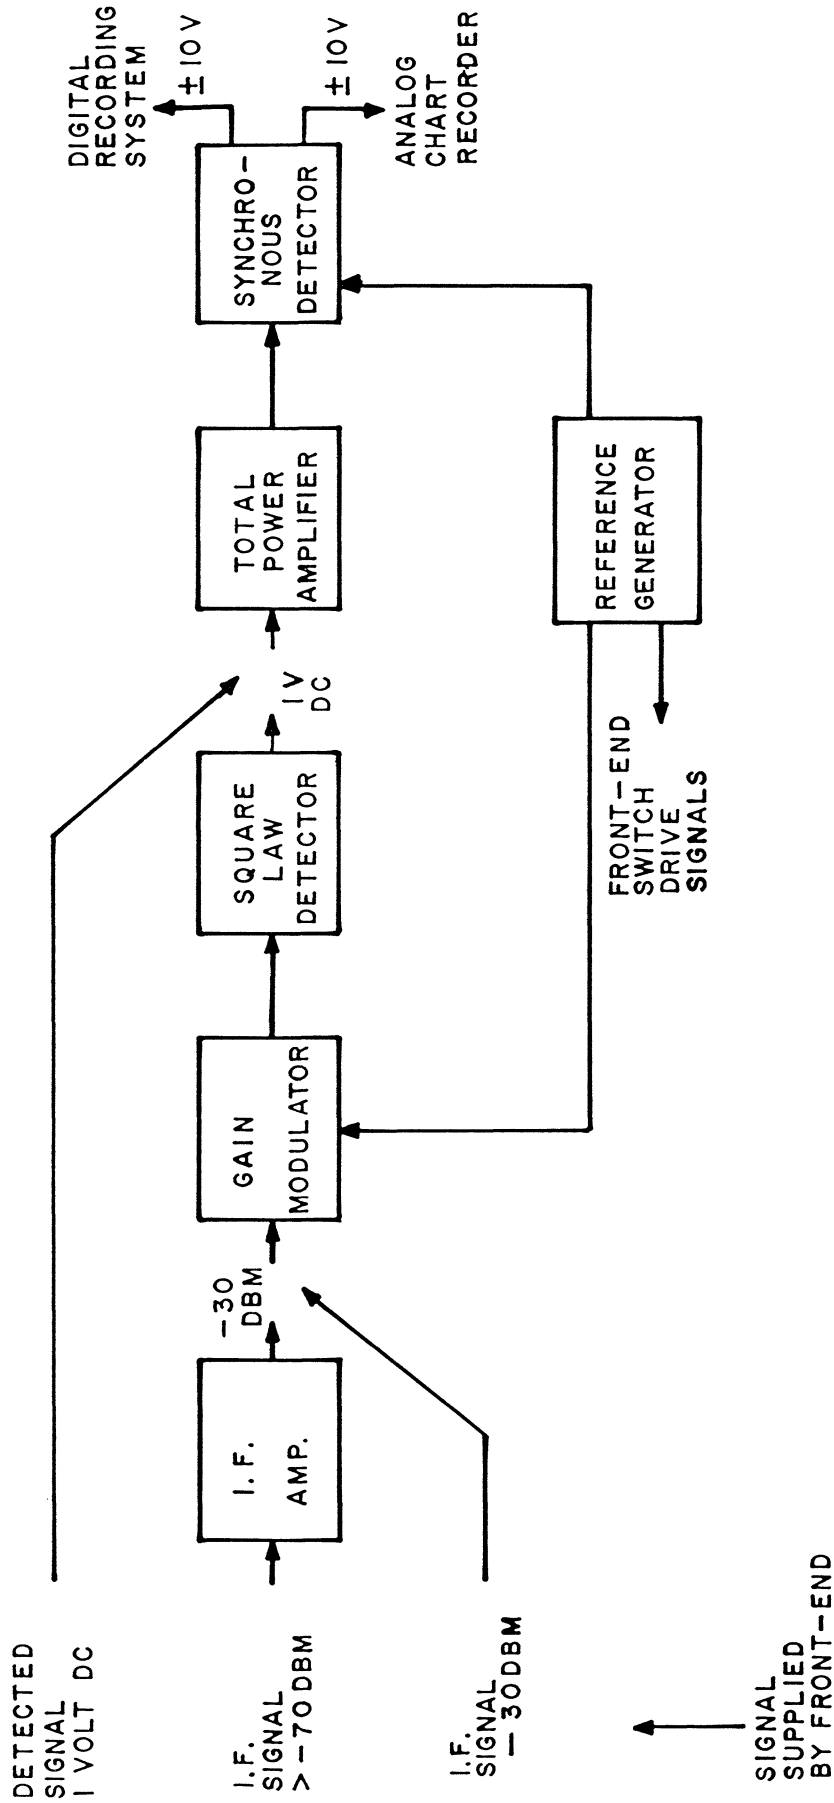
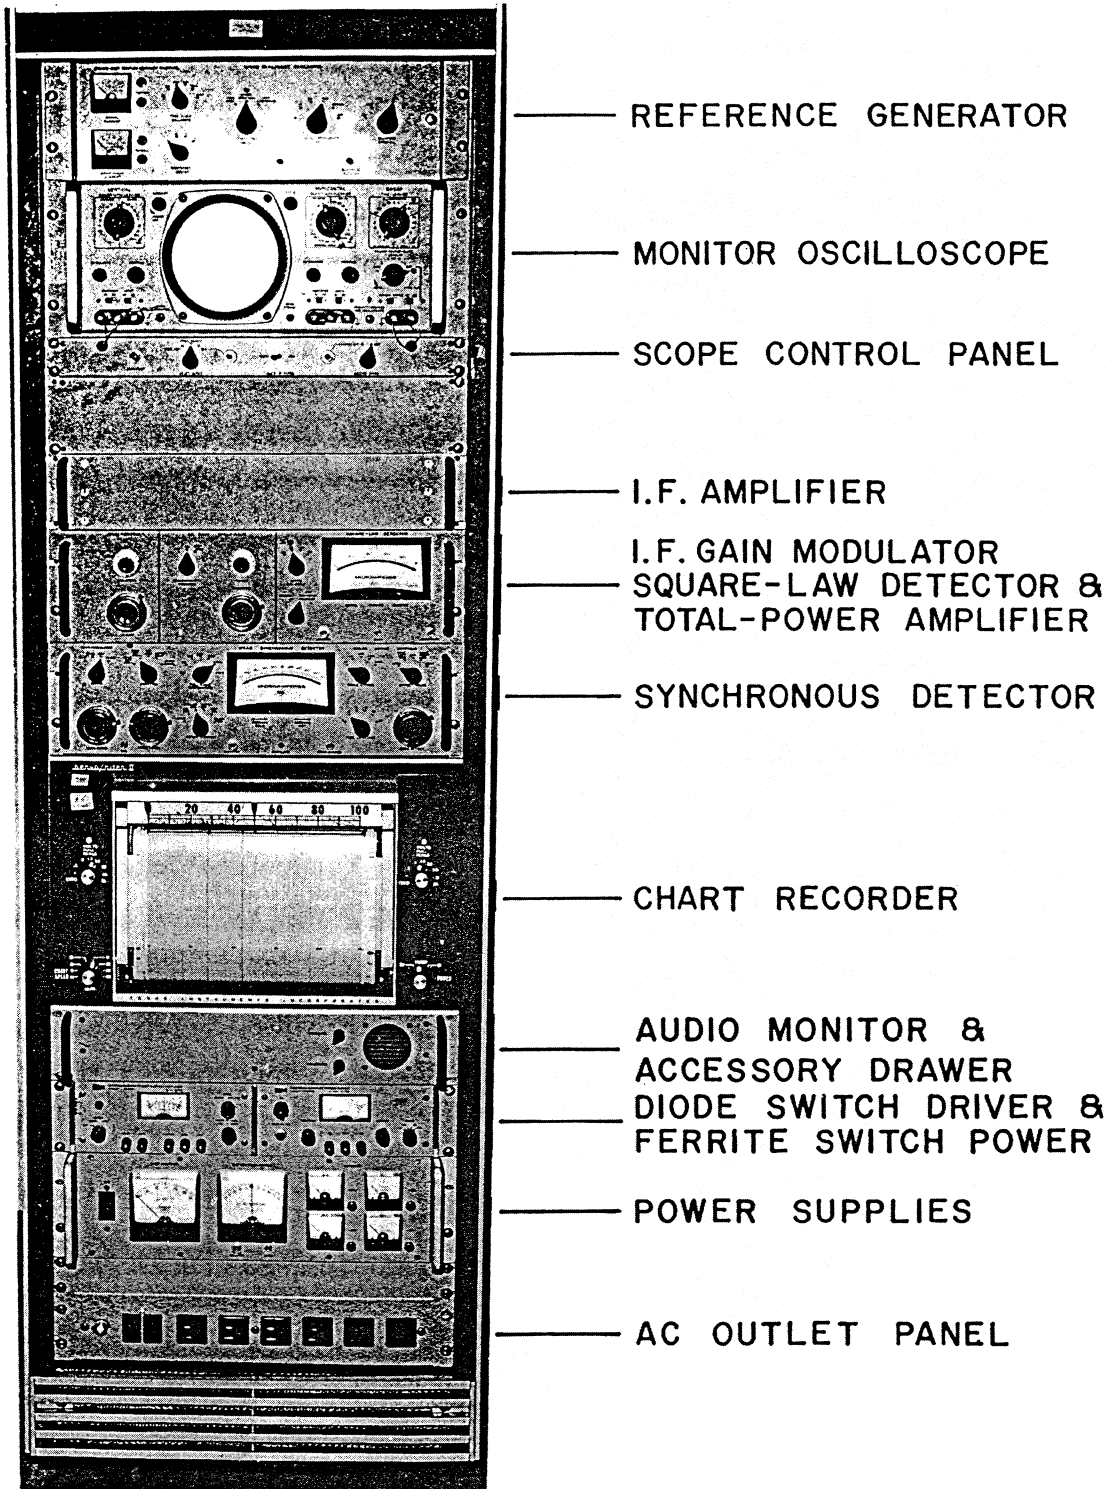

Figure 1 — Standard Receiver Block Diagram
Figure 2 — NRAO Standard Receiver
A block diagram of the receiver is shown in Figure 1 and a photograph is shown in Figure 2. The receiver can accept input signals of 3 types:
3) Switching transients can be "blanked" out after detection. The blanking operation can be performed by keeping the synchronous detector switch in a middle or "dead band" position for a short instant of time after each square-wave transition. The capacitor (in Figure 1) holds the previous voltage value and no "hole" is put in the output signal during the blanking interval.